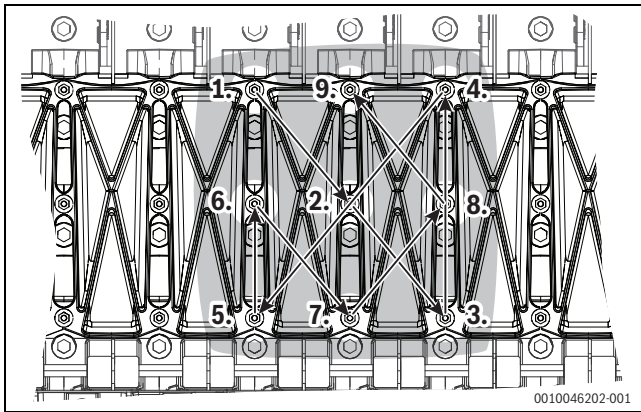

Fig. 66 Cleaning access cover tightening diagram
- Screw the cleaning access cover back on according to the following tightening diagram (1-2-3-4-5-6-7-8-9; → Fig. 66) (tightening torque: 7 Nm) or wet clean the heat exchanger.